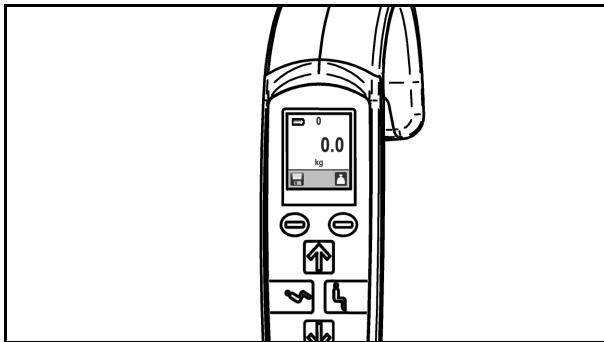

Fig. 59
3. Press the “scale” button to zero the scale. Now the display will show a zero weight (see Fig. 59).